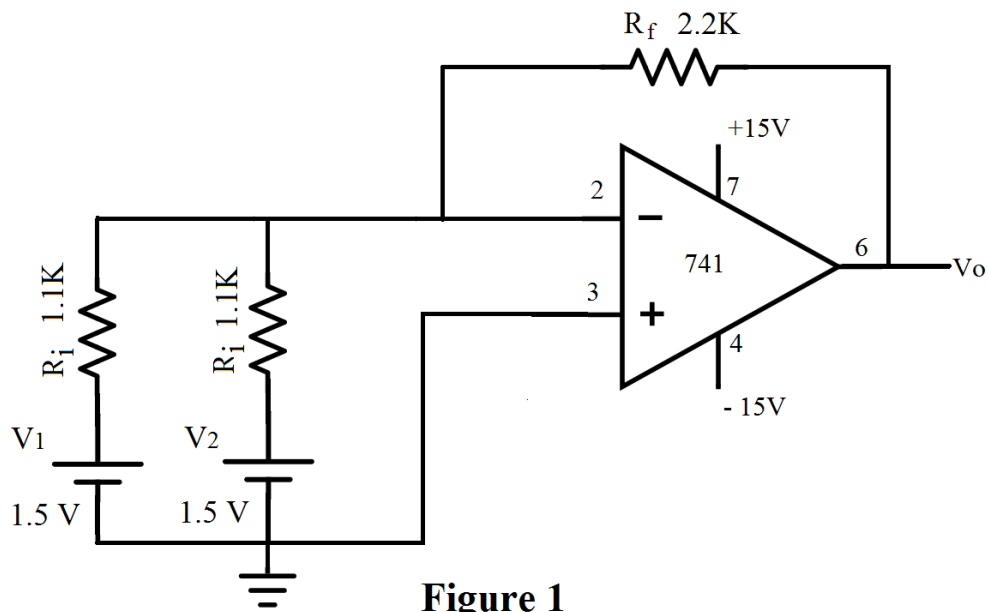

Figure 1
4. Give $V_1 = V_2 = +1.5V$ DC with polarity as shown in fig.1.